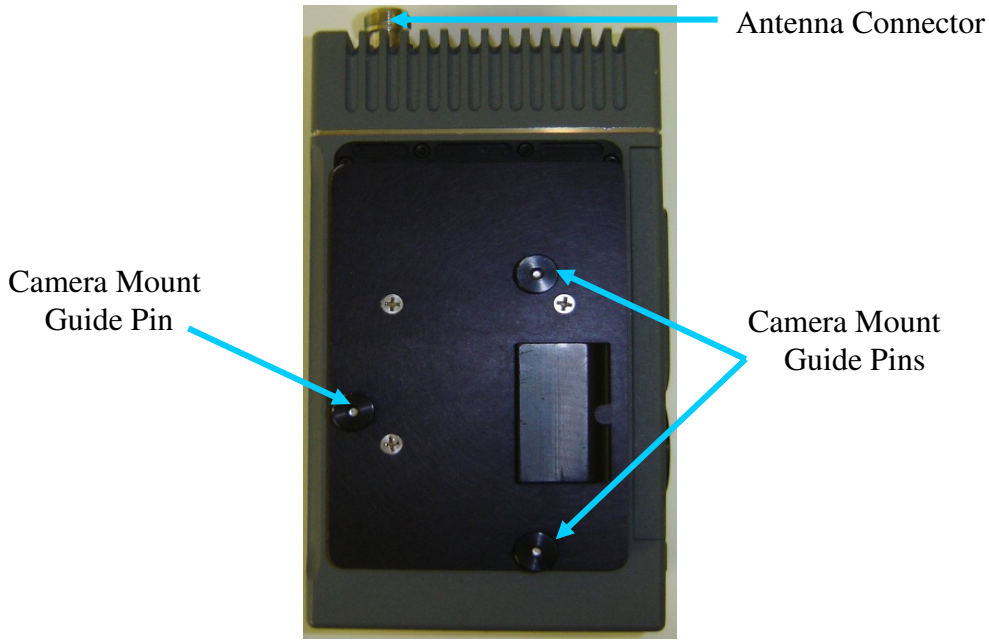

Figure 2: Camera Guide Pins
1. Orient the CamPac2 Guide Pins (Figure 2 and 3) so that the antenna connector is positioned to the top of the CamPac2.
2. Next, place the CamPac2 Guide Pins into the corresponding camera mounting slots. (See Figure 2).